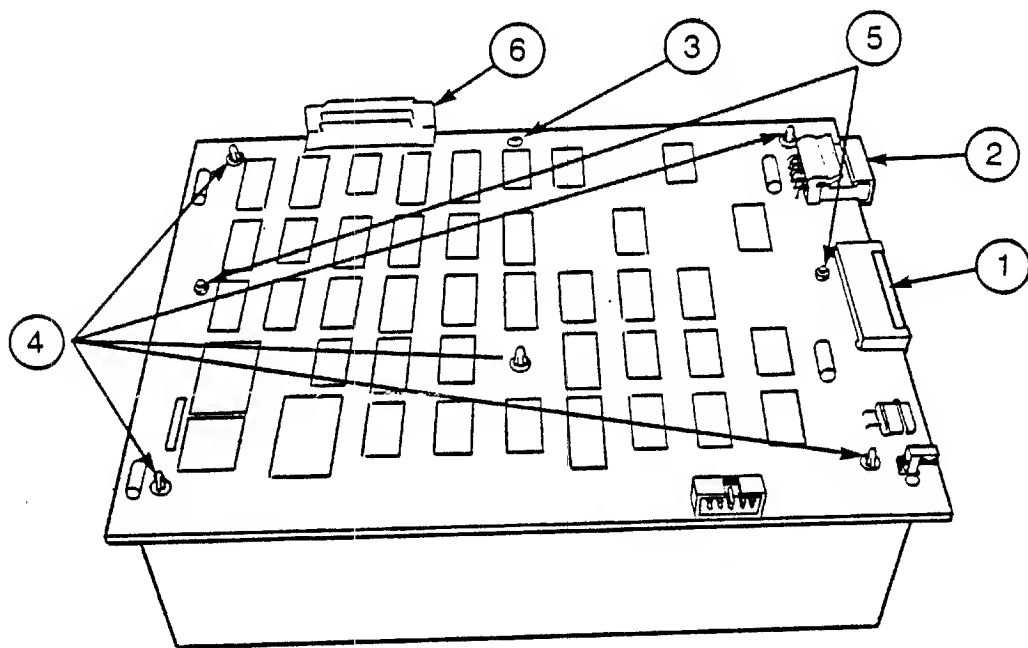

FIGURE 11
2. Disconnect the ribbon cable (Figure 11, #1) and (as far as you can) the orange Mylar motor control cable (Figure 11, #2) from the controller PCB. (You can finish disconnecting the motor control cable more easily after taking the PCB out.) NOTE: Do not pull on the ribbon cable (analog-to-controller cable). Push and wiggle the grey plastic connector until it comes free of the PCB.
3. Remove the long screw at the middle rear of the controller PCB (Figure 11, #3).
4. Use the needlenose pliers to push in the flanges of each of the five plastic stand-offs (Figure 11, #4), to release the PCB. NOTE: Some PCBs will have two additional stand-offs, or two screws to remove, as shown in Figure 11, #5.
5. Lift the controller PCB forward and up off the power supply - you may have to push out on the rear plate to free the interface cable connector (Figure 11, #6), and finish disconnecting the motor control cable. Set the PCB aside. NOTE: When you lift off the controller PCB, you will see a loose metal spacer under the spot where you removed the long screw. Save this spacer for use with the new PCB.